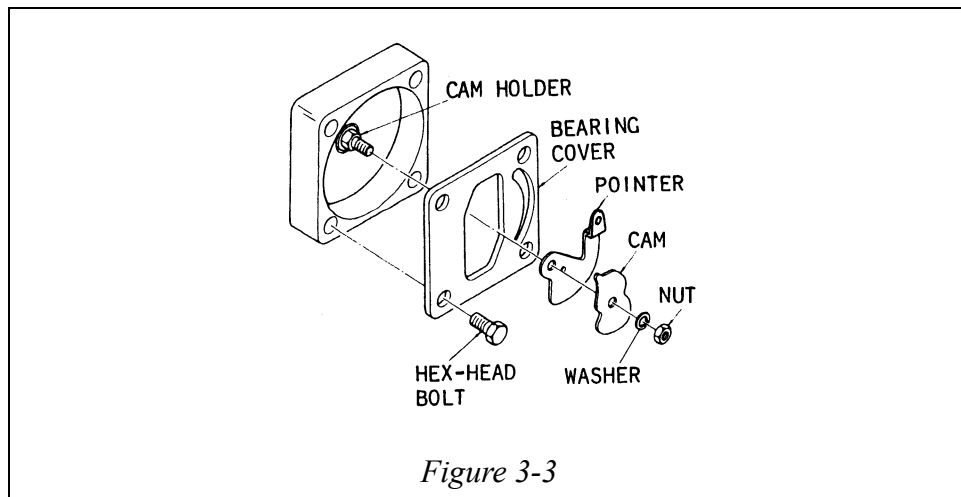
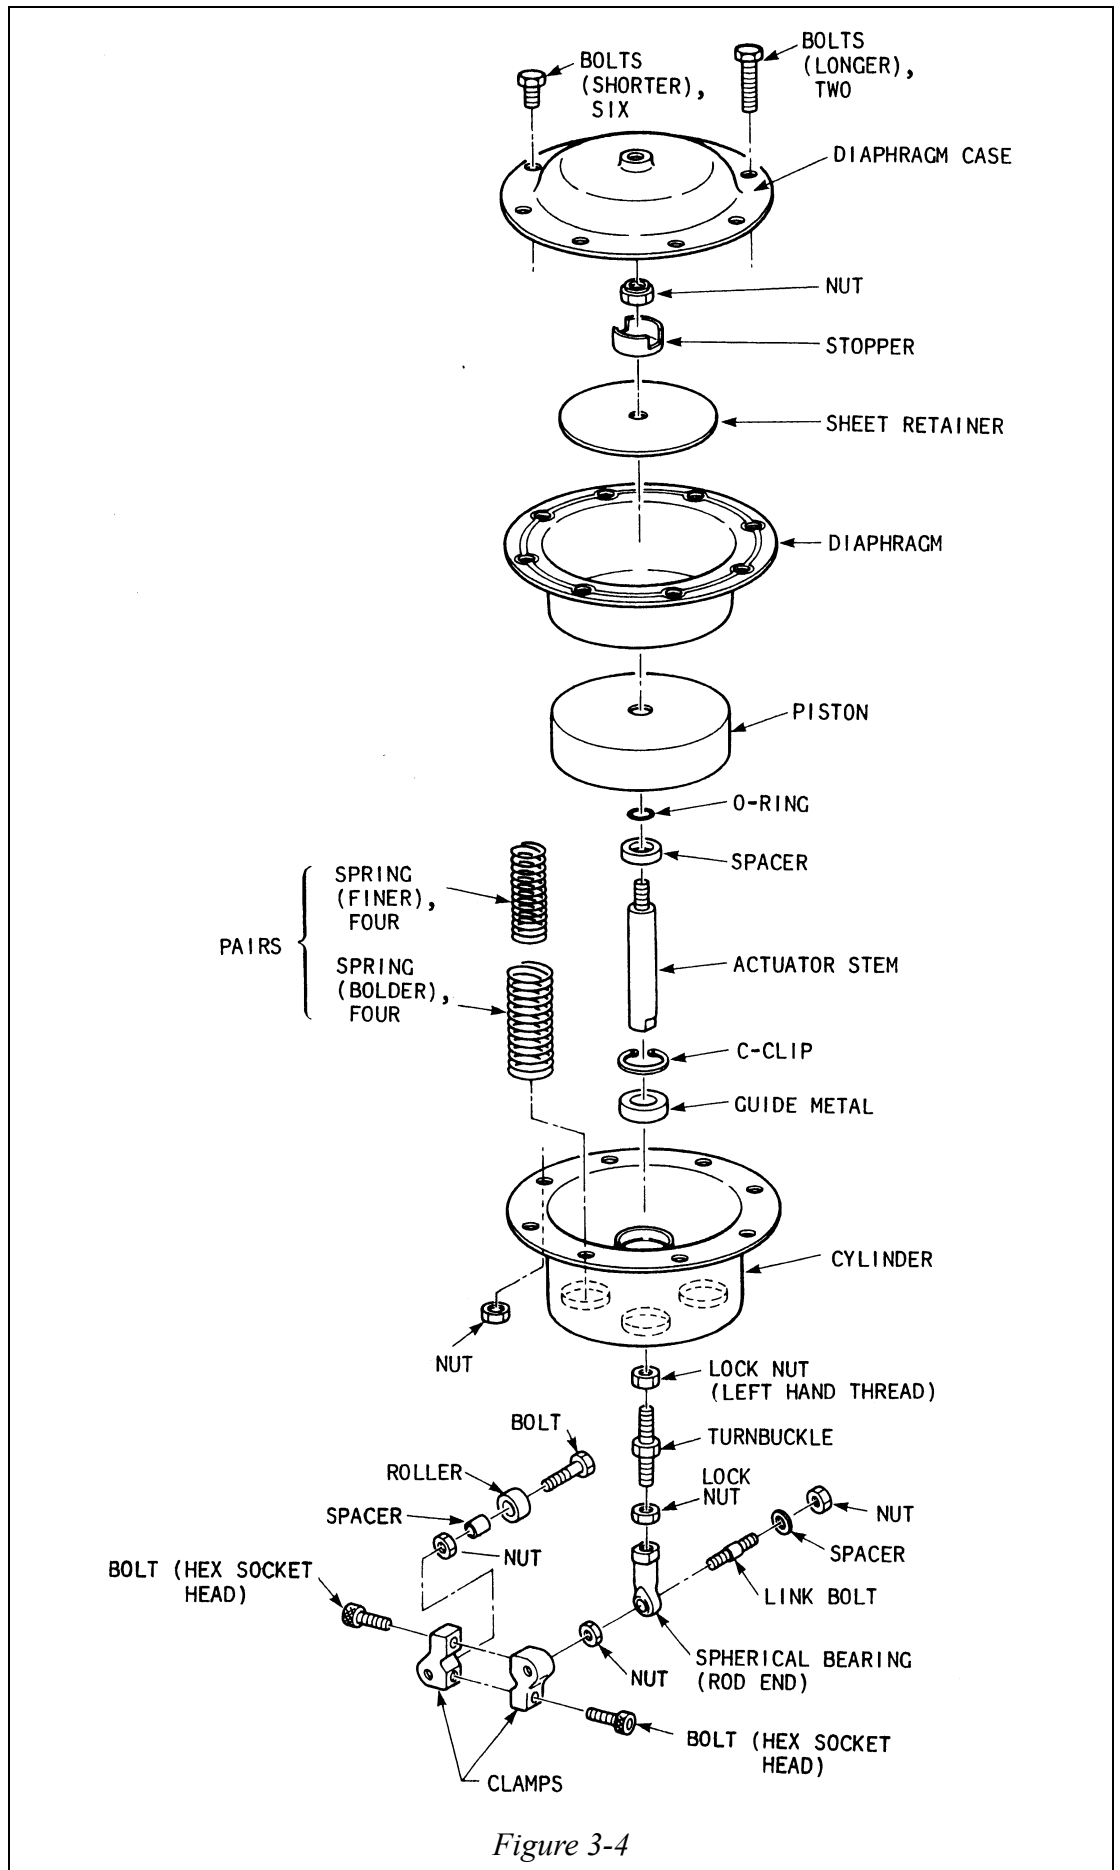

*Figure 3-2*
Figure 3-4
- (1) Provide air piping to the actuator through a pressure regulator.
- (2) Loosen the two lock nuts (one is right hand threaded and the other, left hand threaded) on the turnbuckle, and release the turnbuckle by rotating it in the direction that its threaded sections become more exposed. (See Figure 3-2 and Figure 3-4)
- (3) By adjusting the pressure regulator, apply to the actuator a pressure corresponding to the upper limit of the spring range if the valve is in direct-action mode or a pressure corresponding to the lower limit of the spring range if the valve is in reverse-action mode.
- (4) Use a wrench to rotate the hex section of the turnbuckle until rotation becomes heavy and the parts on the clamp shaft do not turn any further. The rotating directions are as follows:
- (3) For a reverse-action valve, since the initial compression force is being applied to the actuator stem, loosen both lock nuts (one is right hand threaded and the other left hand threaded) and then release the turnbuckle by rotating it in the direction that its threaded sections become more exposed.
- (4) Remove the clamps by removing their screws (hex socket head type). (See Figure 3-4.)
- (5) Remove the four bolts which fix the bracket to the valve body, and remove the actuator from the valve body.
- (6) Loosen the turnbuckle further and remove it from the actuator stem.
To disassemble the actuator for parts replacement or servicing, follow the procedure described below. (See Figure 3-4.) When disassembling the actuator, take care not to damage the diaphragm or piston.
- (1) Remove the actuator from the valve body. (See “3-3 : Removing actuator from valve body” and Figure 3-4.)
- (2) While excluding the two longer bolts which are located at mutually opposite positions, remove all clamping bolts and nuts from the diaphragm case (top). (See “3-3 : Removing actuator from valve body” and Figure 3-4.)
- (3) Alternately and uniformly loosen the two longer clamping screws and remove the diaphragm case (top).
- (4) Take out the cut section of the diaphragm from the cylinder, raise the bottom of the piston, and remove the piston section from the cylinder.
- (5) Remove the top nut by applying a wrench to the two flat cutaway planes at the bottom of the actuator stem. Remove the piston, diaphragm, sheet retainer, stopper, spacer, and O-ring.